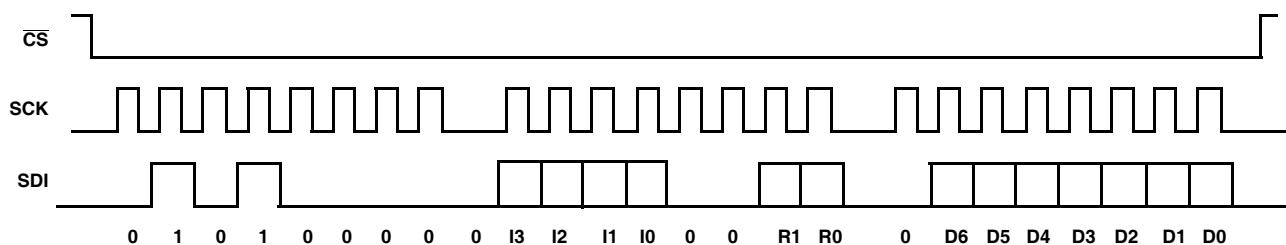

FIGURE 16. THREE BYTE WRITE SEQUENCE
by Data Byte is sent to SDI pin. The host terminates the write operation by pulling the $\overline{CS}$ pin from LOW to HIGH. For a write to address 0 (WR), the byte at address 2 (ACR<7>) determines if the Data Byte is to be written to volatile or both volatile and non-volatile registers. Refer to "Memory Description" on page 10 and Figure 16.